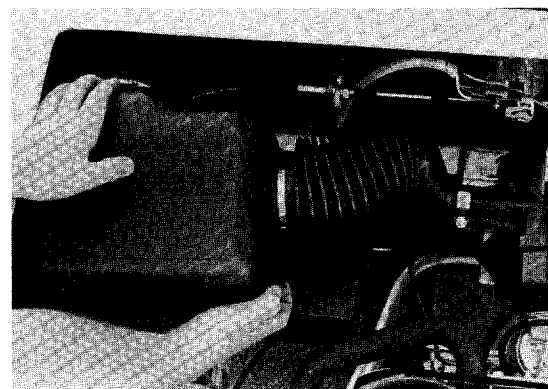

Figure 7-22
3. Remove air expansion chamber from choke assembly (Figure 7-22).